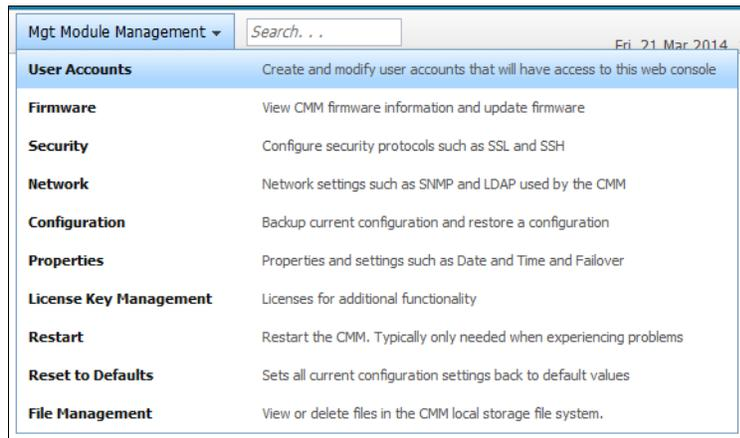

Figure 7-11 Management module management drop-down menu
- ▶ Management Module Management, shown in Figure 7-11.